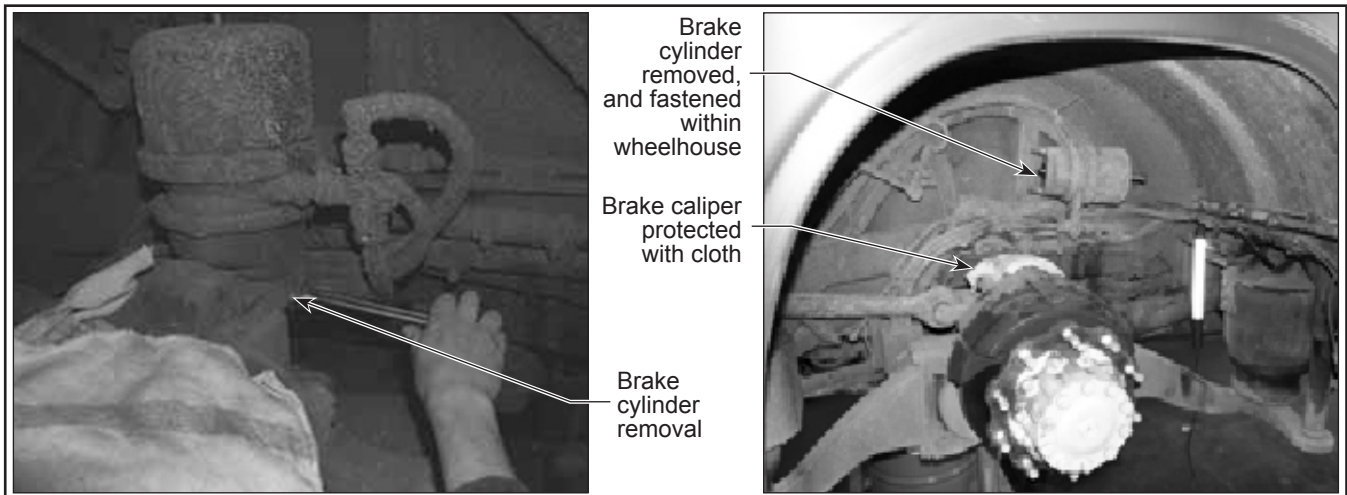

Figure 4 - Brake Cylinder Removal
- 2.16. Loosen the screws on the brake cylinder and remove the brake cylinder carrier plate. Loosen the locknuts and remove the brake cylinder. See Figure 4.
- 2.17. Fix the brake cylinder within the wheelhouse with a tie-wrap, wire, or rope, and cover its opening. Protect the mounting face of the brake caliper with an adequate cover or cloth. See Figure 4.